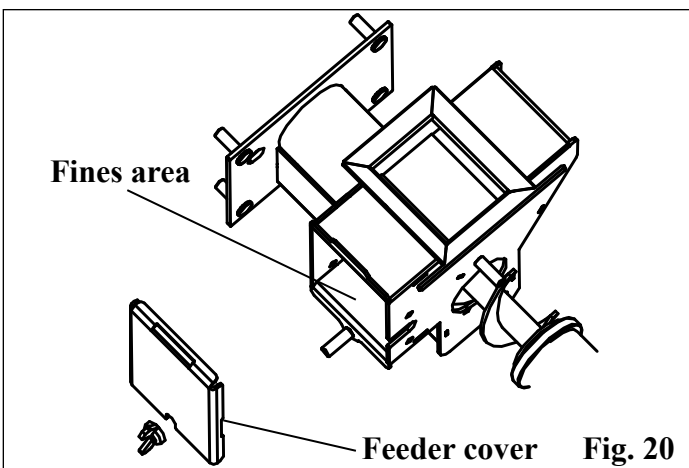

Fig. 20
Feeder Chamber (Fig. 20):
- Inspect and clean the inner chamber as necessary. See Fig. 20.